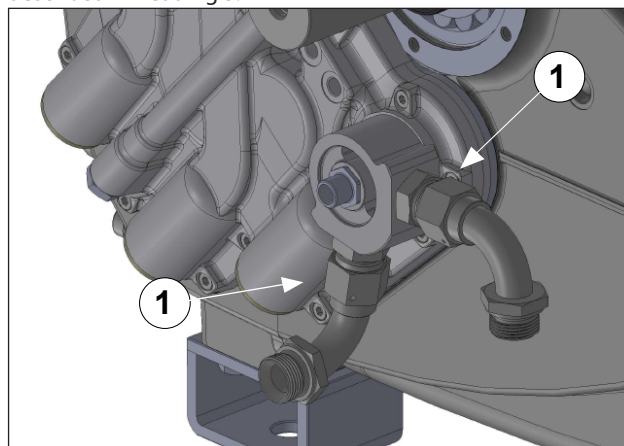

Fig. 131
Fit the oil filter cartridge by tightening it manually (pos. ①, Fig. 131).